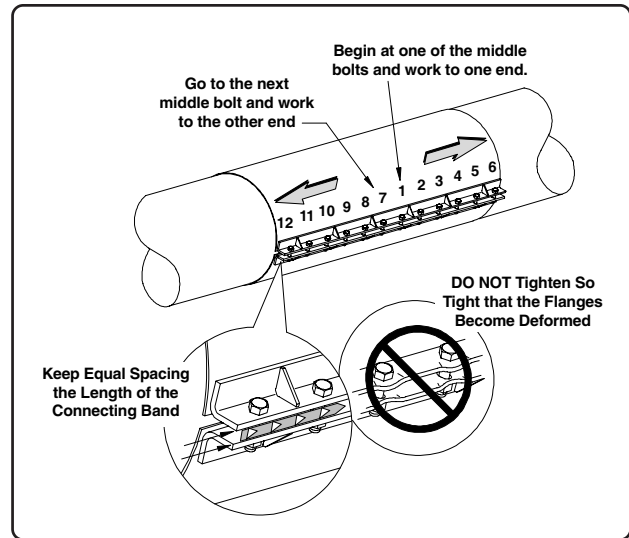

Fig. 14
1. After location for the access section(s) has been determined, connect to the conveyor system tubes using the connecting bands provided. Tighten connecting bands as shown in Fig. 14.